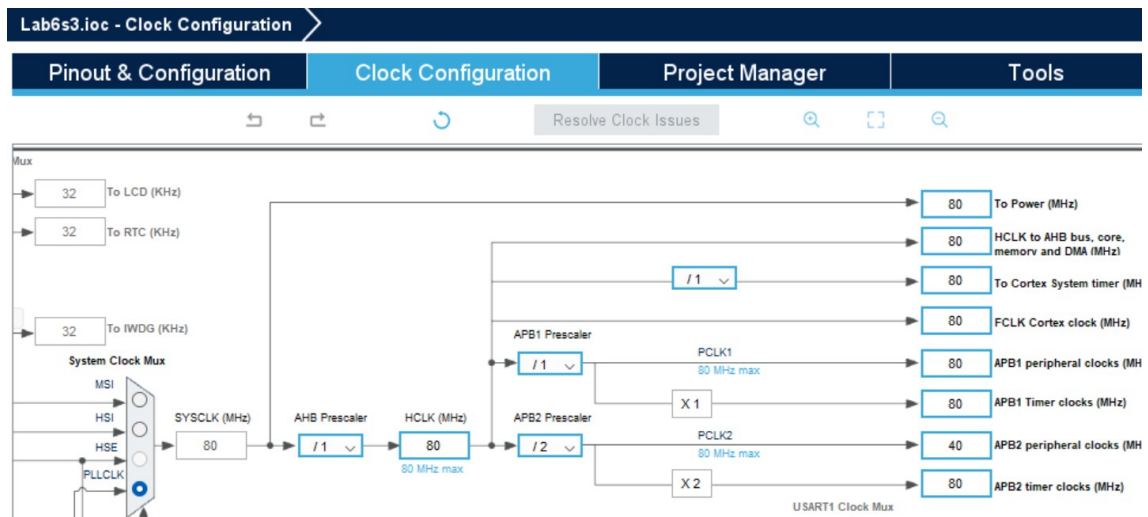

Figure 1: APB2 ioc file adjustment
2. In the Clock Configuration shown in figure 1, we *only* need to adjust APB2. Change the APB2 Prescaler to /2 to make APB2 match the video value of 40MHz.